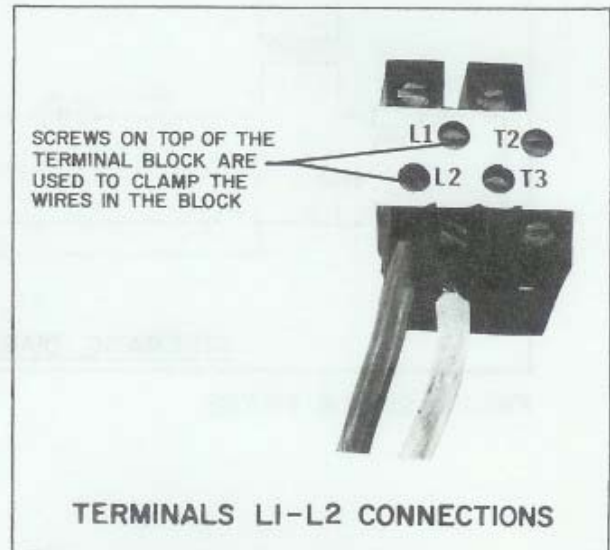

Fig. 13
3. The wires must be connected to terminals L1 and L2 through the front face of the terminal block as shown in Fig. 13. The screws on the top of the terminal block are used for clamping the wires in the terminal block.